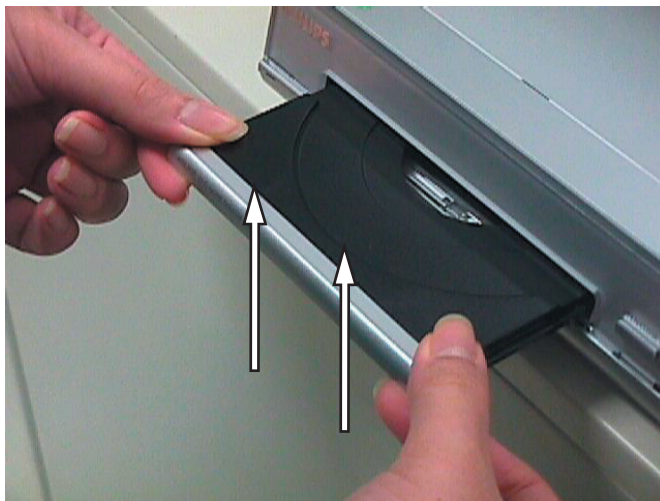

Figure 4-2
- 2) Remove the Tray Cover as shown in Figure 4-2